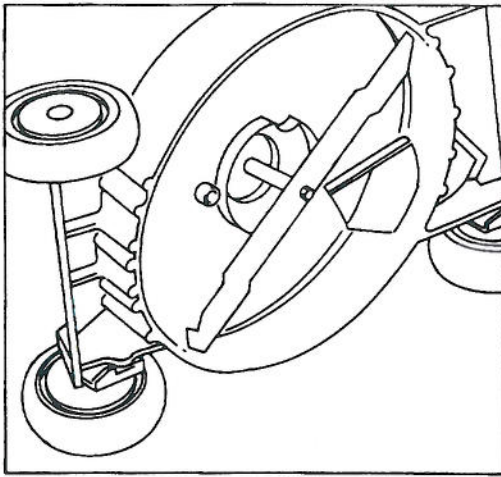

Figure 26
2. Tip mower on its right side (Fig. 26). Avoid rotating blade because starting problems may result.